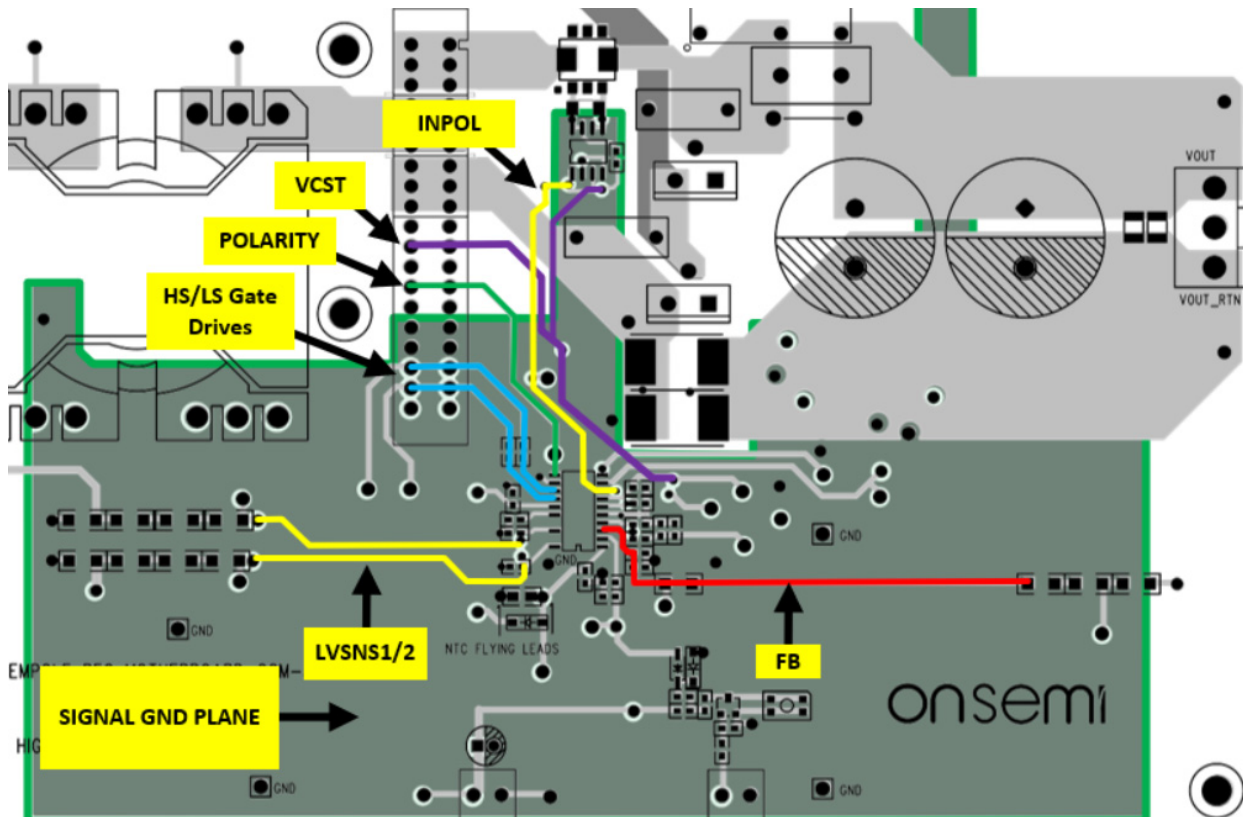

Figure 18. NCP1681 Motherboard Low-Voltage Signals
- As shown in Figure 18, keep all Low-voltage signals direct and over the Signal GND Plane as much as possible to use the shielding the Signal GND plane provides.